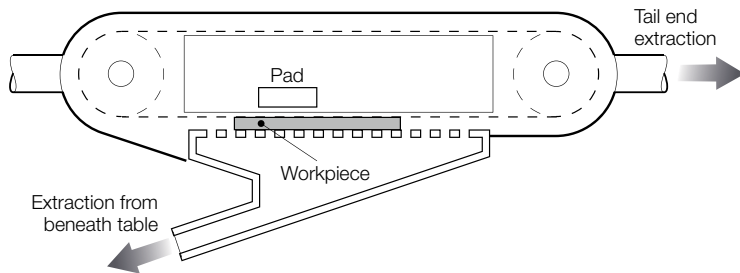

Figure 2 Pad sander with additional extraction through the table
- ✓ Fit additional LEV in the table of the machine, close to the sanding position, if control is difficult. See Figure 2.